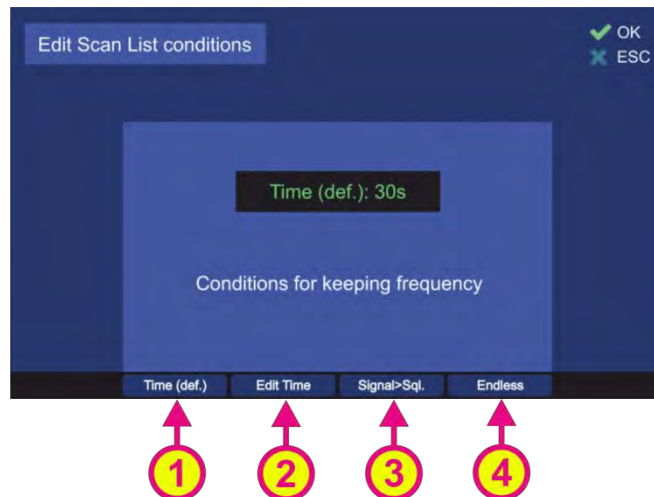

Figure 56. "Scan List Conditions" dialog
- “Time (def.)” hotkey (s. Figure 56, position 1) defines the behavior of the “Scan List” algorithm if the active frequency (signal level > squelch level) has been found. If this hotkey is pressed, the default time of 30 seconds will be adopted after confirming this setting with “OK”. The scan algorithm will stay for the default time of 30 sec on an active frequency before continuing with scanning of the next frequencies.
- Pressing the hotkey “Edit Time” (s. Figure 56, position 2) will open a dialog for editing the time of staying on the actively received frequency before continuing with the scan procedure.
- Pressing the hotkey “Signal>Sql.” hotkey (s. Figure 56, position 3) defines the time of staying on the actively received frequency before continuing with the scan procedure. If this setting is confirmed, the scanning procedure will stay on the actively received frequency as long as the signal level is higher than the squelch level.
- If the hotkey “Endless” (s. Figure 56, position 4) was pressed and confirmed with “OK”, the scan algorithm will stay on the actively received frequency as long as the user terminates the scan or skips the current frequency.